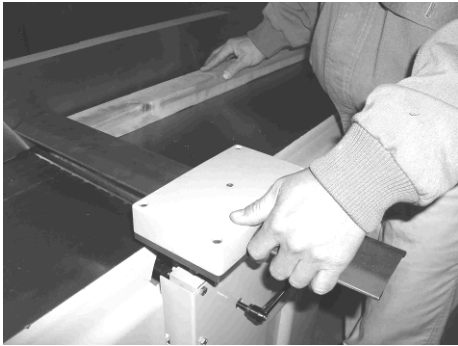

Figure 8. Preparing for flatting
2. If the stock is cupped, place the concave side down and slowly feed it over the cutter head as shown in figure 8.
Set the cutter head guard to match the thickness of the work piece. Push the work piece with the right hand only a little under the guard as shown in Figure 8.